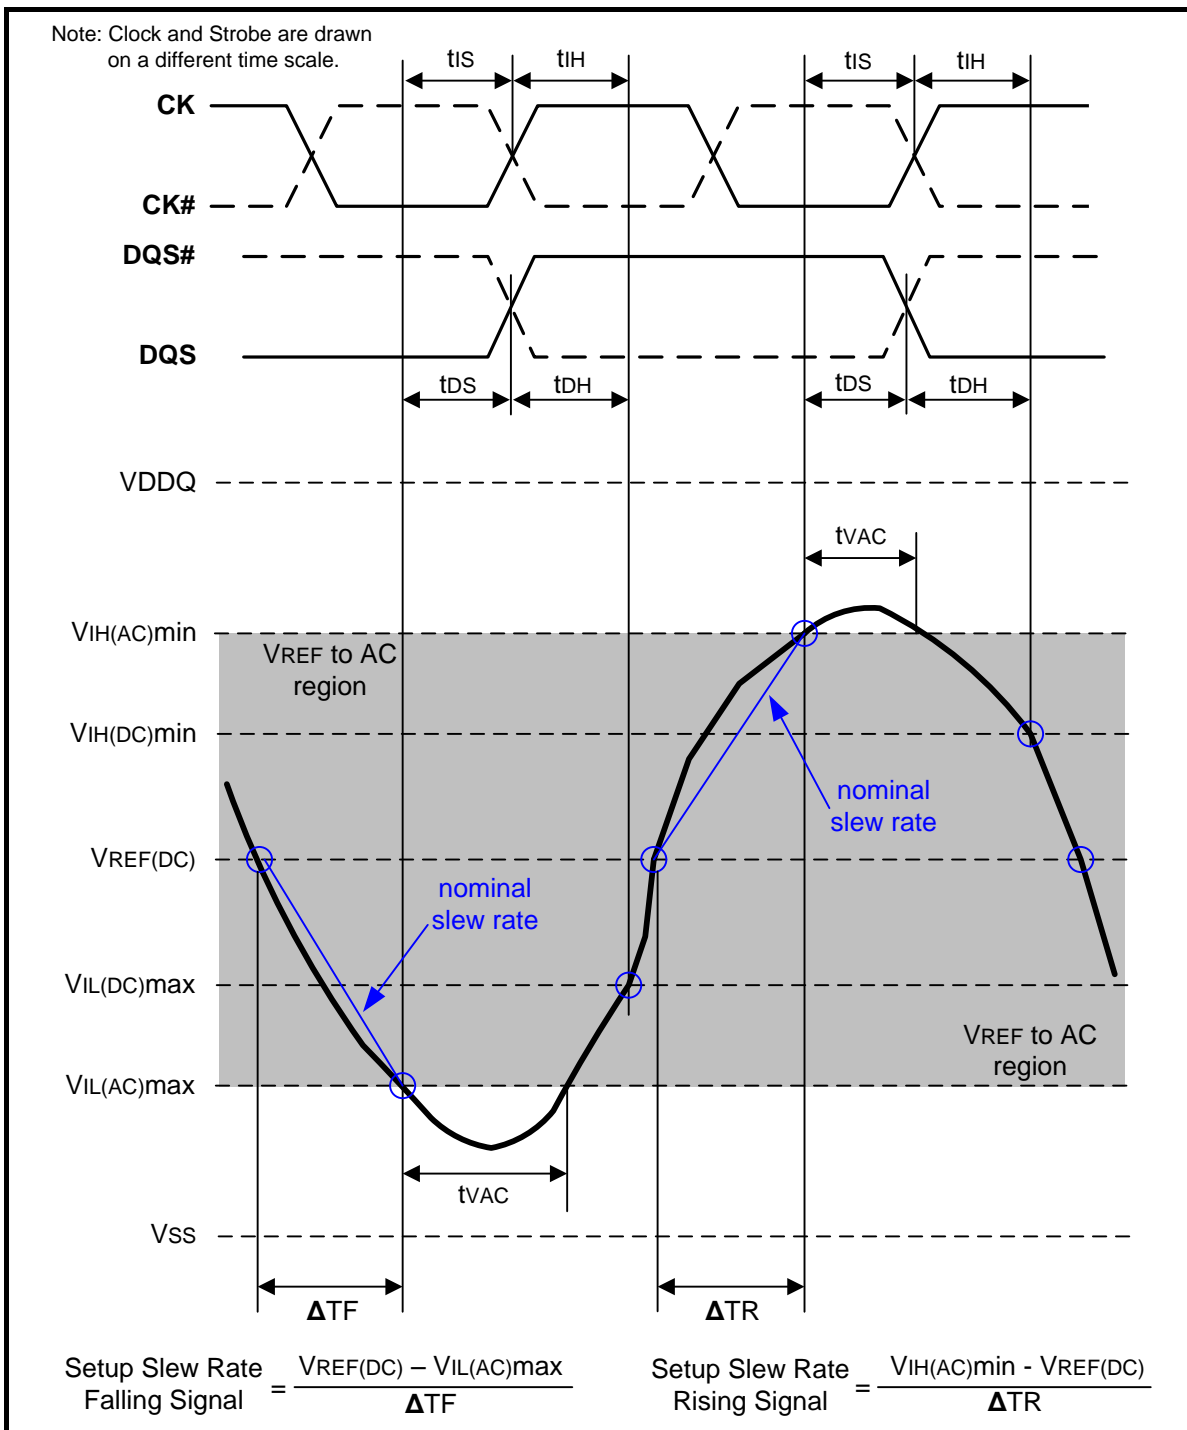
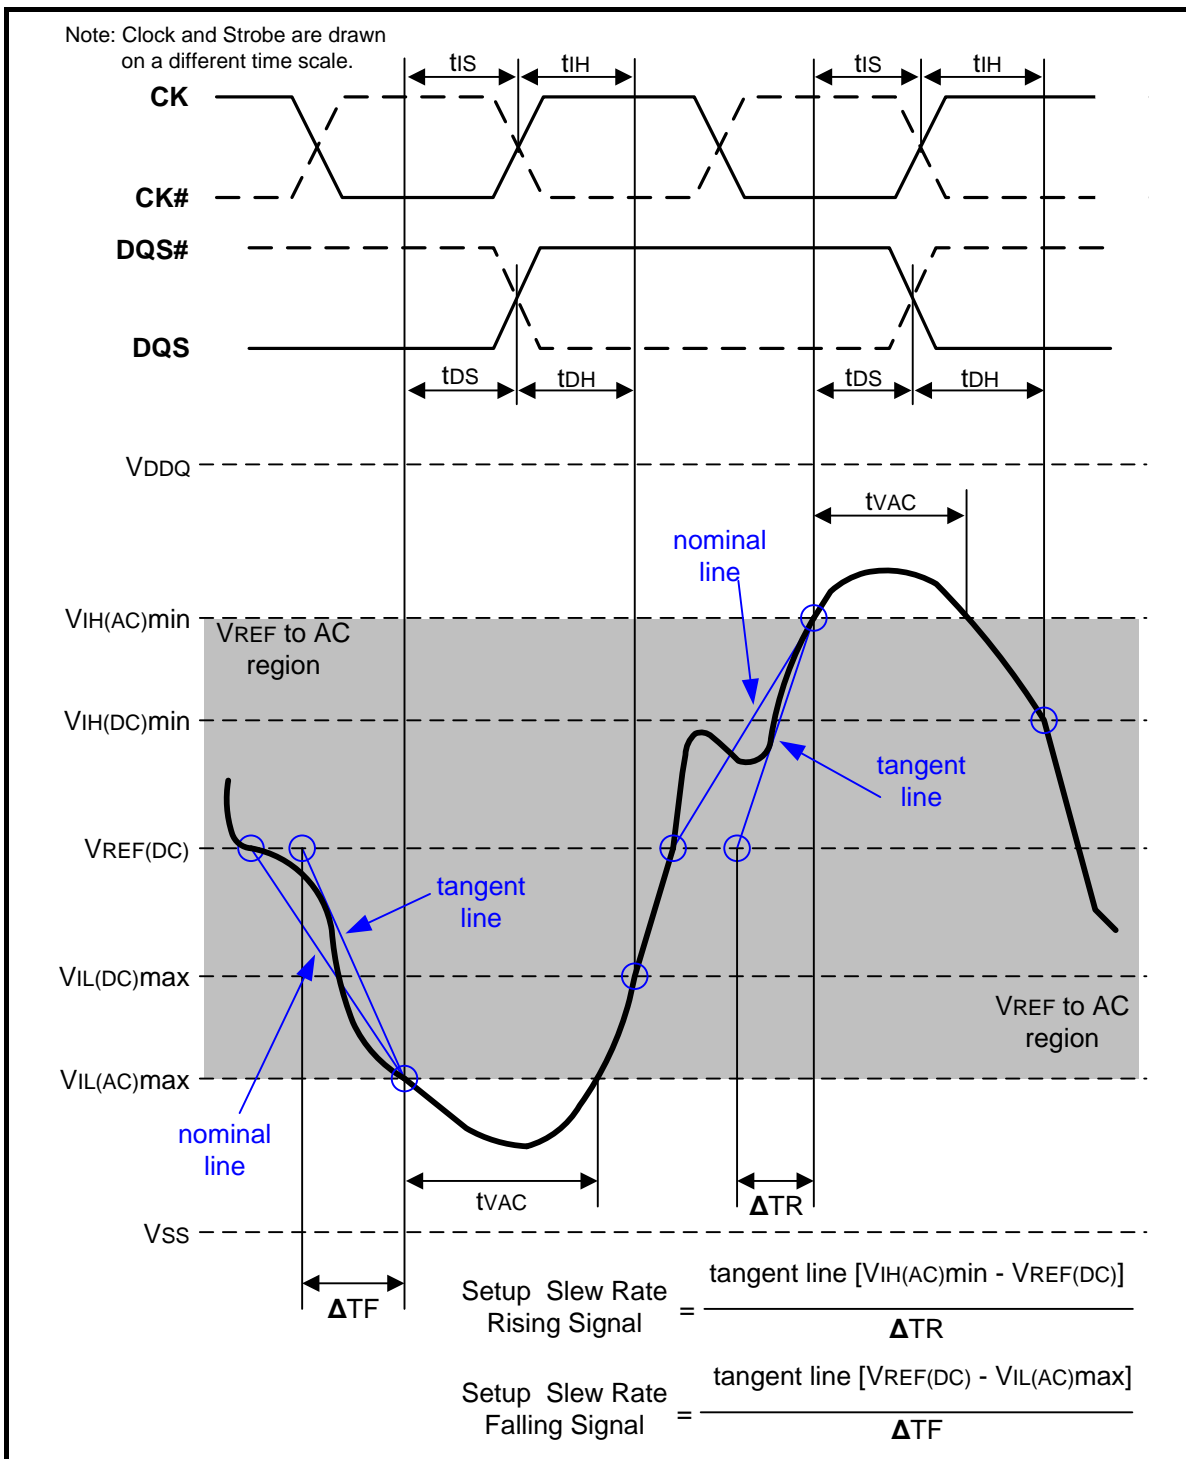

Figure 107 – Illustration of nominal slew rate and tvac for setup time tDS (for DQ with respect to strobe) and tIS (for ADD/CMD with respect to clock)
Figure 109 – Illustration of tangent line for setup time t_{DS} (for DQ with respect to strobe) and t_{IS} (for ADD/CMD with respect to clock)
Setup (t_{IS}) nominal slew rate for a rising signal is defined as the slew rate between the last crossing of $V_{REF}(\text{DC})$ and the first crossing of $V_{IH}(\text{AC})_{\text{min}}$. Setup (t_{IS}) nominal slew rate for a falling signal is defined as the slew rate between the last crossing of $V_{REF}(\text{DC})$ and the first crossing of $V_{IL}(\text{AC})_{\text{max}}$. If the actual signal is always earlier than the nominal slew rate line between shaded 'VREF(DC) to AC region', use nominal slew rate for derating value (see Figure 107). If the actual signal is later than the nominal slew rate line anywhere between shaded 'VREF(DC) to AC region', the slew rate of a tangent line to the actual signal from the AC level to $V_{REF}(\text{DC})$ level is used for derating value (see Figure 109).
Setup (tDS) nominal slew rate for a rising signal is defined as the slew rate between the last crossing of VREF(DC) and the first crossing of VIH(AC)min. Setup (tDS) nominal slew rate for a falling signal is defined as the slew rate between the last crossing of VREF(DC) and the first crossing of VIL(AC)max (see Figure 107). If the actual signal is always earlier than the nominal slew rate line between shaded 'VREF(DC) to AC region', use nominal slew rate for derating value. If the actual signal is later than the nominal slew rate line anywhere between shaded 'VREF(DC) to AC region', the slew rate of a tangent line to the actual signal from the AC level to VREF(DC) level is used for derating value (see Figure 109).